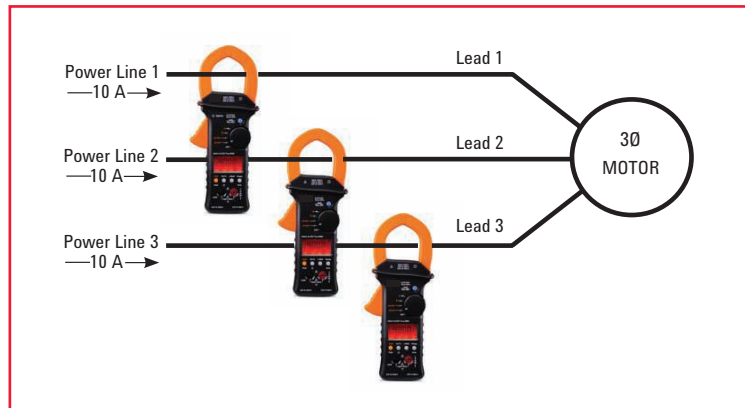

Figure 2. Motor under normal condition
1. Measure and record the current in each motor lead as shown in Figure 2.